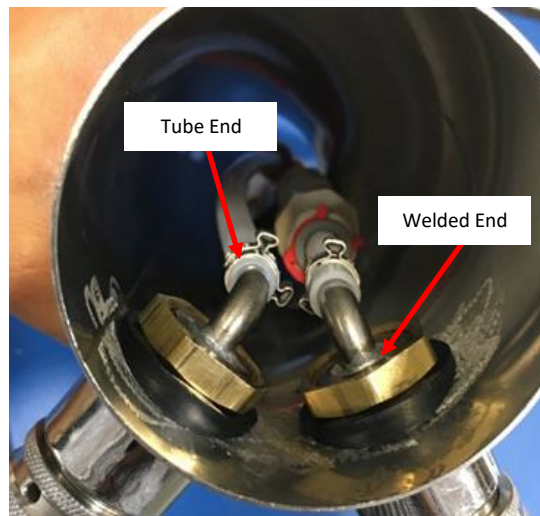

Figure 42: Leak points on the Elbow Shank shown.
- i. If the leak is coming from the tubes connected to the Elbow, the tube and Oetiker Clamp can be removed once the Tower is disassembled and reused. Refer to **Appendix I: Disassembling The Tower** to see how to disassemble and reassemble the Tower. **See Figure 42.**
- ii. If the Stainless-Steel elbow is damaged, replace the entire elbow. Refer to **Appendix I: Disassembling The Tower** to see how to disassemble and reassemble the Tower. **See Figure 42.**